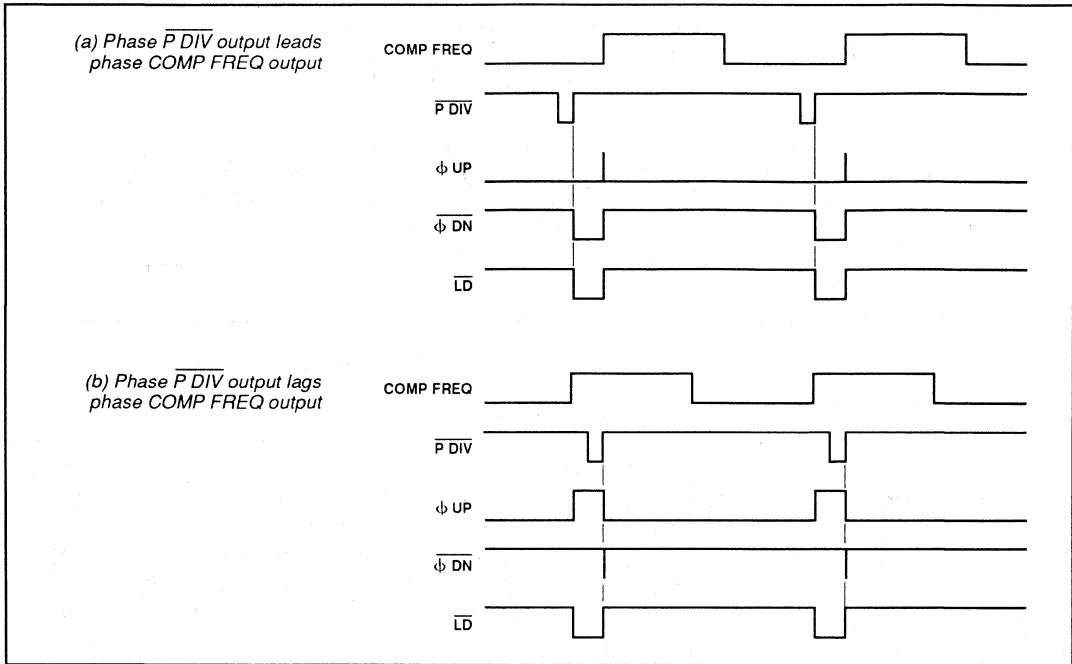
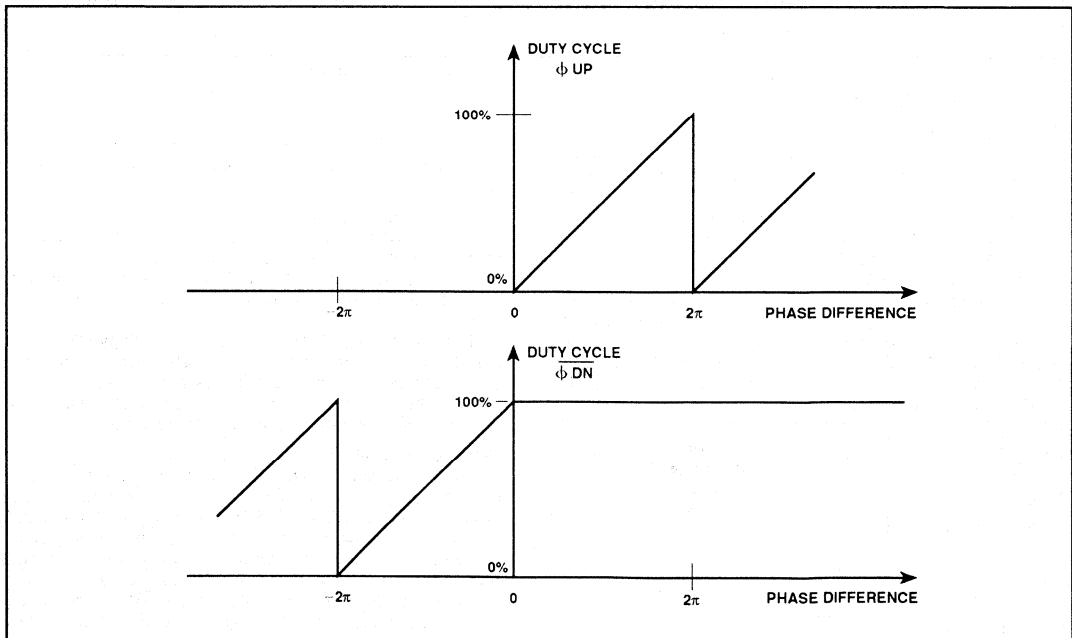

Fig. 6 Phase comparator waveforms
Fig. 7 Phase comparator output characteristics
The phase comparator consists of a digital type phase comparator with open drain ϕ UP and ϕ DN outputs and an open drain LOCK DETECT (LD) output. Open drain outputs from the reference divider and programmable divider are provided for monitoring purposes or for use with an external phase comparator. Waveforms for all these outputs are shown in Fig. 6. The duty cycle of ϕ UP and ϕ DN versus phase difference are shown in Fig. 7. The phase comparator is linear over a ± 2 range and if the phase gains or slips by more than 2, the phase comparator outputs repeat with a 2 period.
Once the phase difference exceeds 2, the comparator will gain or slip one cycle and then try to lock on to the new zero phase difference. Note that very narrow pulses may be seen on the inactive phase comparator output at the end of the pulse on the active output, as shown in Fig. 6.